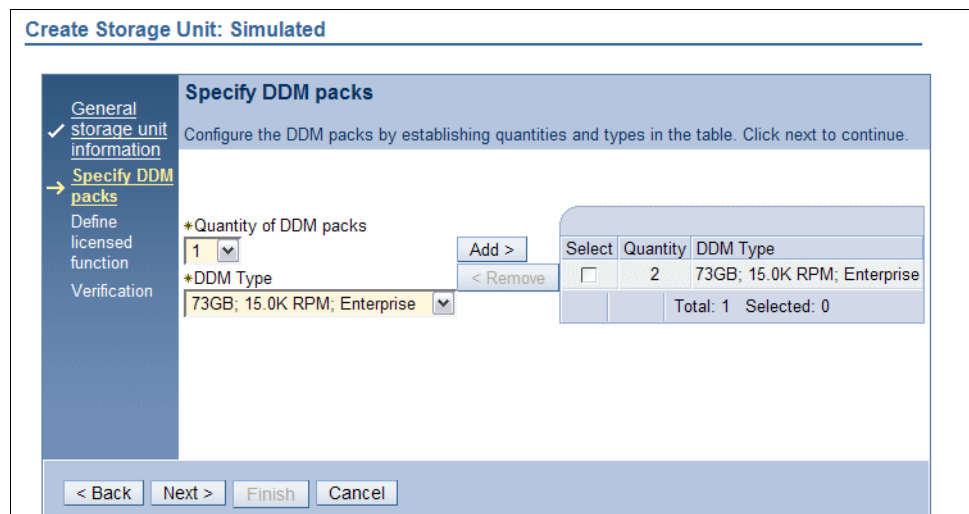

Figure 12-10 Create a Storage Unit: Specifying DDM packs
2. In the example shown in Figure 12-10, two packs of 73 GB DDMs have already been added. After adding all the DDM packs, you will be prompted to enter what licensed features will be used. The required value of Operating Equipment Licence (OEL) will already be calculated for you. Note that you will not get to choose how many storage enclosures will be used, or on which loops these enclosures or disk packs will be placed.